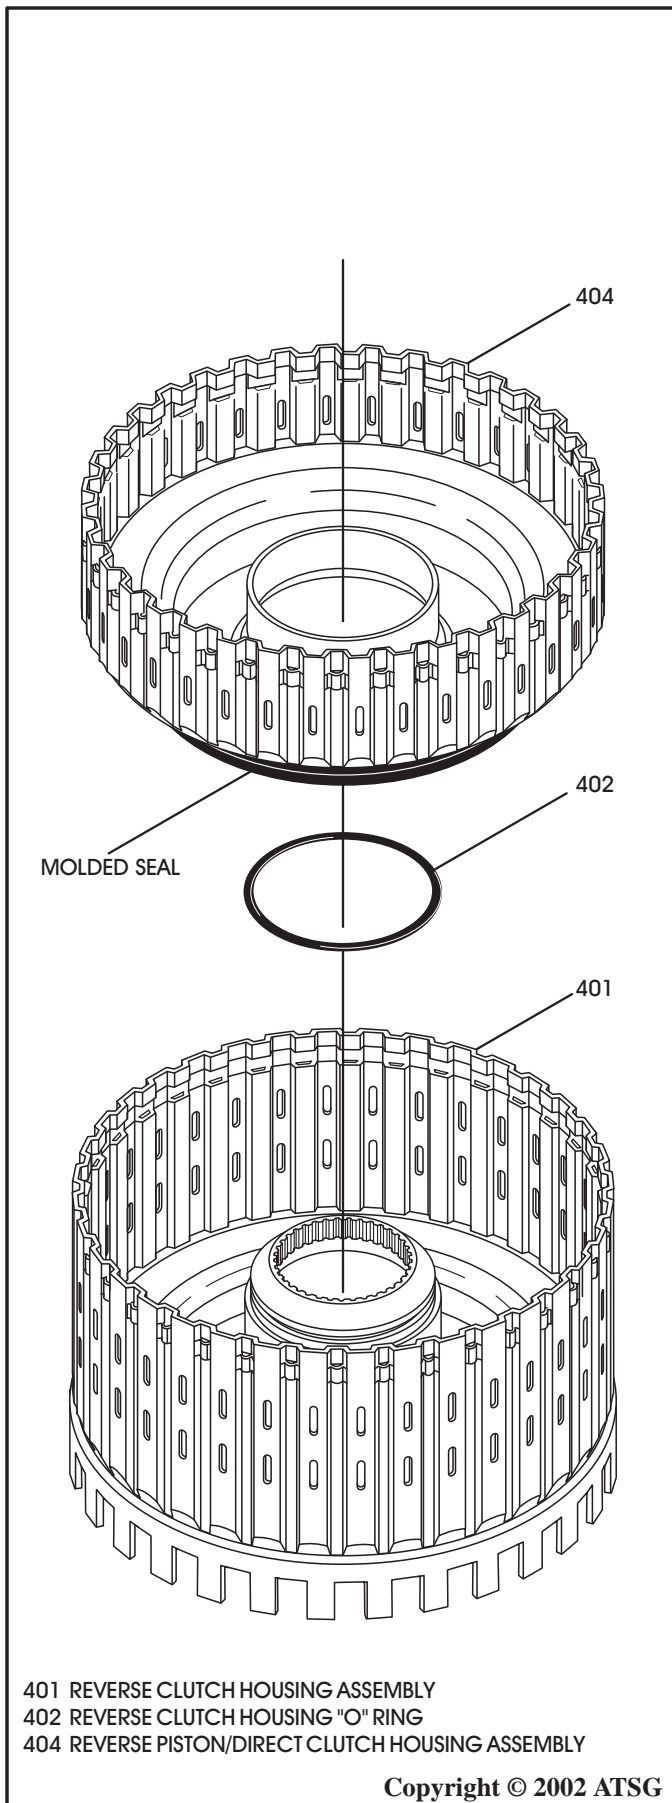

Figure 75
6. Install new "O" ring seal into groove in the reverse clutch housing and lubricate with a small amount of Trans-Jel® (See Figure 75).
7. Lubricate the inside diameter of the direct clutch housing and install the direct clutch housing into the reverse clutch housing, as shown in Figure 75, by rotating into position.
8. The direct clutch housing (404) also serves as the reverse clutch piston and has a molded seal as shown in Figure 75.